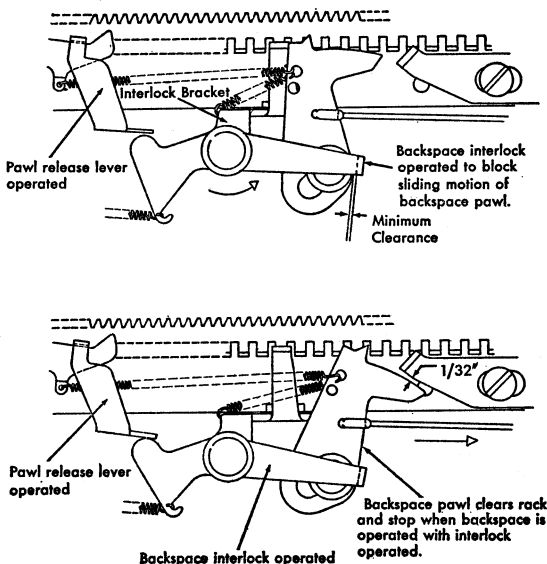
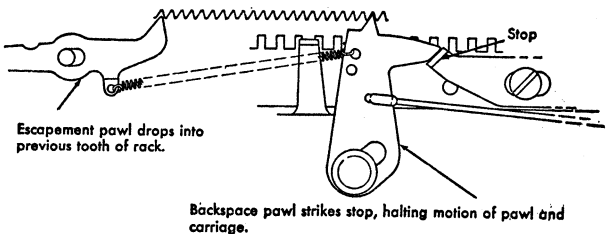

Figure 53. Backspace Interlock Bracket Adjustment
Figure 56. Backspace Stop Adjustment
1. BACKSPACE INTERLOCK. Adjust by forming the bracket which supports the interlock lever, in such a manner that all clearances are very close, (Figure 53). The clearance must be held to an absolute minimum to block any motion of the backspace pawl while the interlock is in the operating position. Test by holding down a carriage release button and moving the backspace pawl by hand.
4. THE BACKSPACE PAWL STOP is positioned so that it stops the backspace pawl as soon as the escapement pawl drops into the next tooth of the escapement rack. Observe this adjustment through the bottom of the typewriter after tripping the backspace cam and rotating the power roll by hand (Figure 56). The stop is also positioned far enough to the front of the machine so that the backspace pawl clears the stop by $1/32''$ when the interlock is operated and a backspace operation is attempted (Figure 53). Hold the carriage release levers depressed and operate the backspace by hand to observe this clearance.